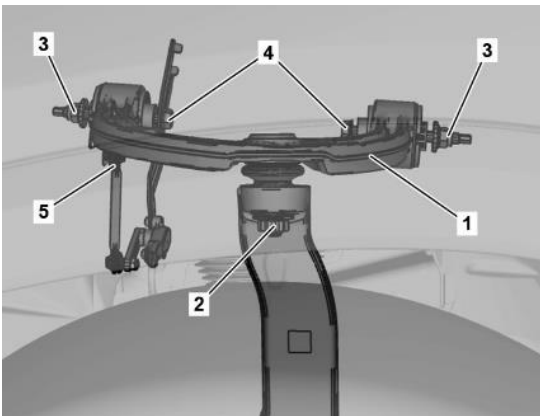

Figure 1
2. Remove nut (2, Figure 1) at upper transverse control arm (1, Figure 1).
1. Replace upper transverse control arm (1, Figure 1).